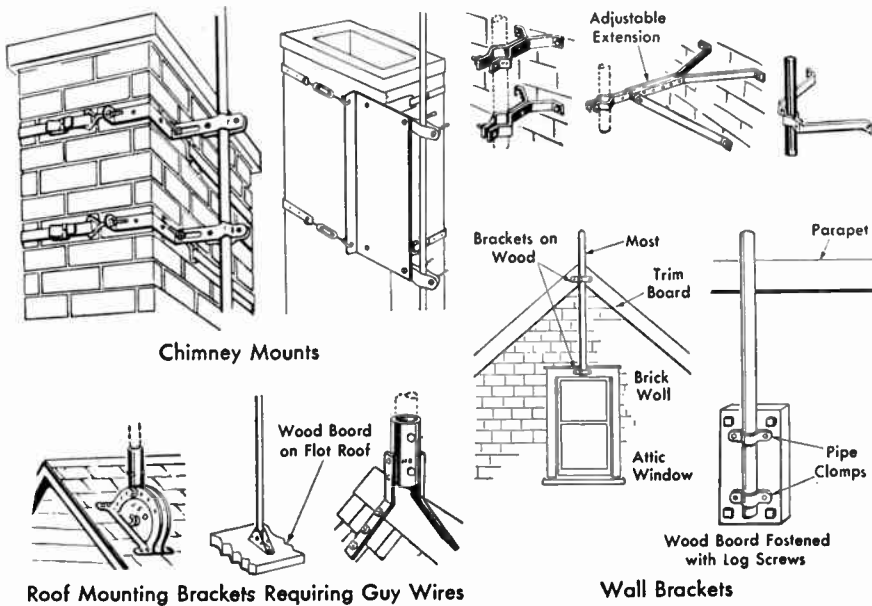

Fig. 6. Examples of the three commonest types of antenna mounts. Many other types of brackets and antenna hardware are also available at jobbers
**Antenna Mounts.** Examples of television antenna mounting methods are shown in Fig. 6. If it is necessary to mount the antenna on the roof, try to locate it on the overhang so as to avoid damage from leaks. Whenever the antenna is mounted on the roof, a layer of roofing compound should be applied to the roof under the mounting bracket and the mounting bolts should be covered with tar after they are tightened.